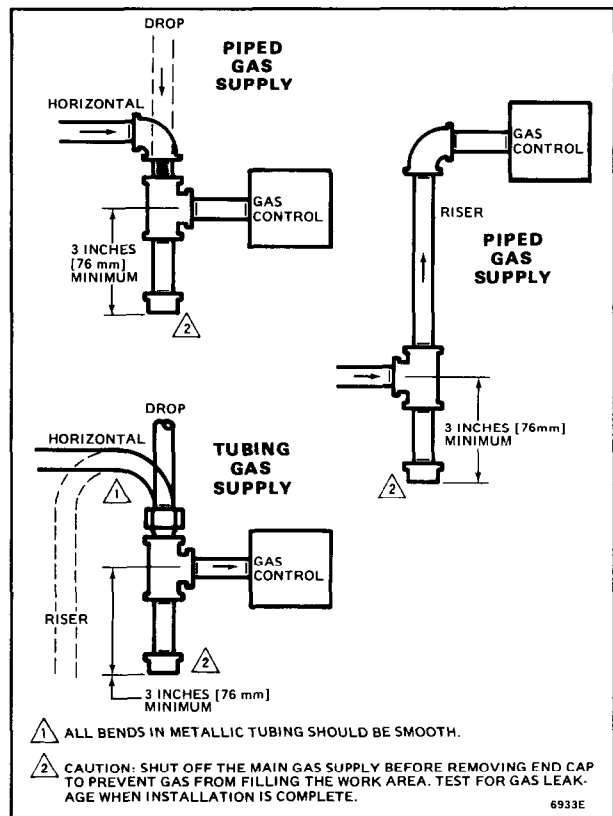

FIG. 3—SEDIMENT TRAP INSTALLATION.
3. Install sediment trap in the supply line to the gas control. See Fig. 3.